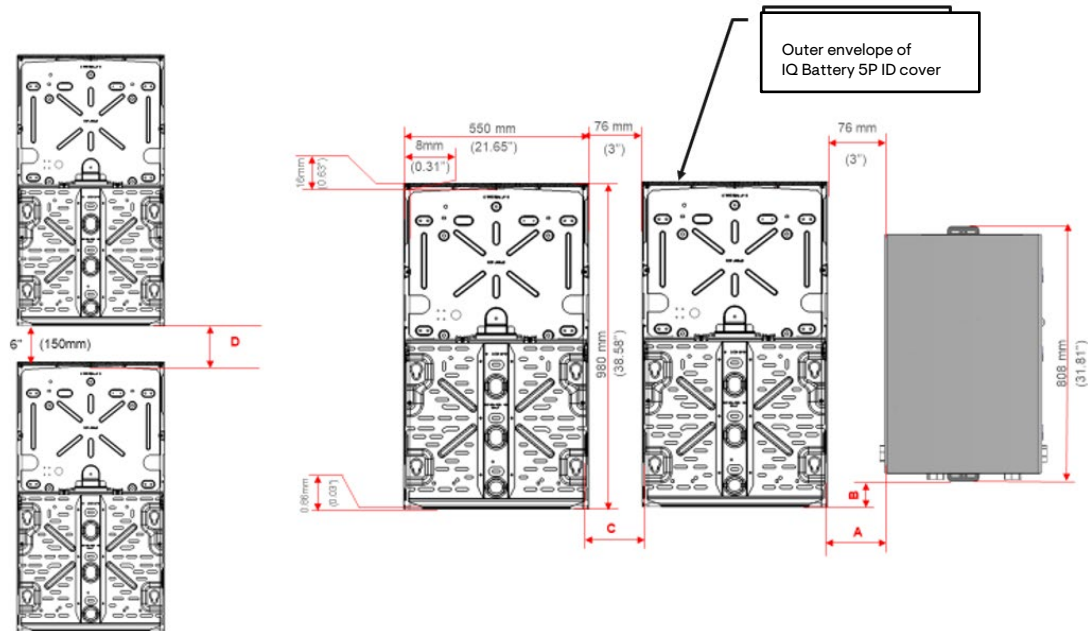
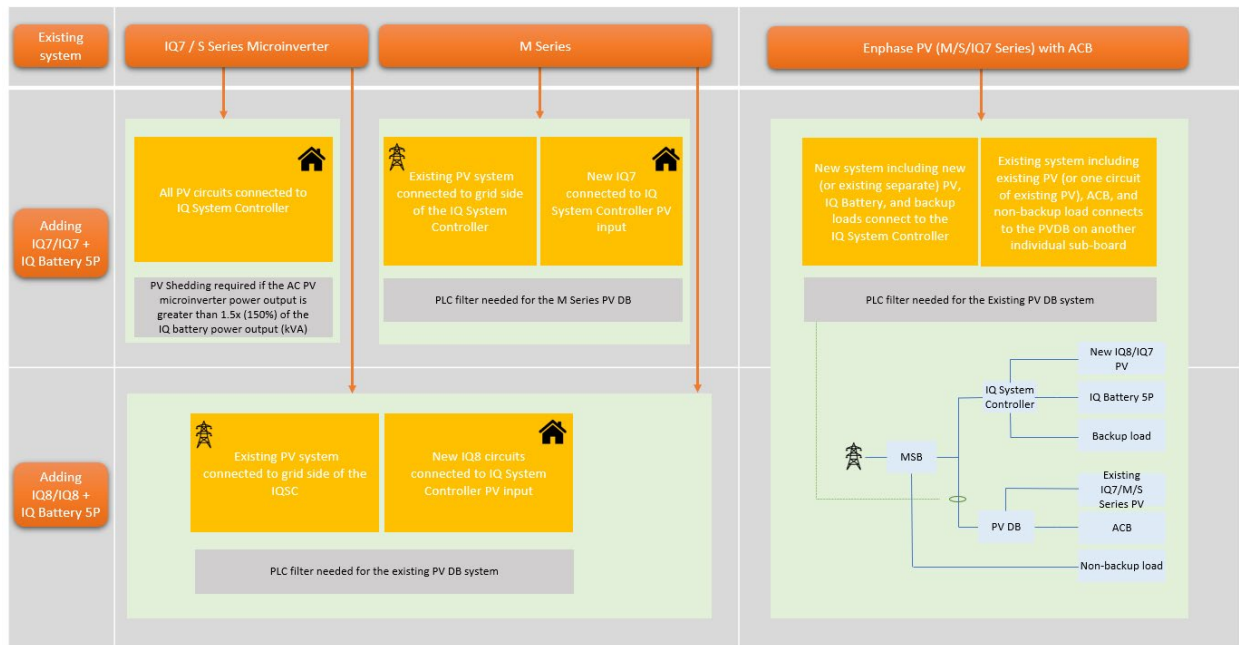

Figure 6: IQ Battery 5P bracket and IQ System Controller unit wall-mounting and vertical space between units
Figure 7: Wiring different types of existing Enphase products at the site
- The minimum mounting bracket horizontal spacing of IQ Battery 5P and any adjacent unit should be 92 mm (3.63 inches), as shown in Figure 6. The vertical spacing between IQ Battery and any other unit installed on the wall should be a minimum of 150 mm (6 inches) as shown in Figure 7. Values are specified in Table 2.
If any site has multiple types of Enphase microinverters or existing AC batteries. The layouts in Table 3 and Figure 7 are helpful as a guideline on how those various series of IQ Microinverters can be connected to the system with IQ System Controller 3 INT and IQ Battery 5P.